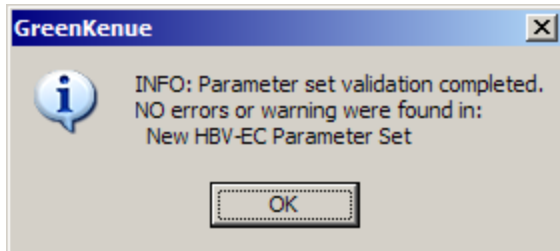

Figure 5.23: This message indicates that no errors were found
3. Select **Run→Check Parameters** from the menu bar. A dialog box will appear, listing any errors remaining in the parameter set. If there are no errors found, the the message box shown in Figure 5.23 will appear.